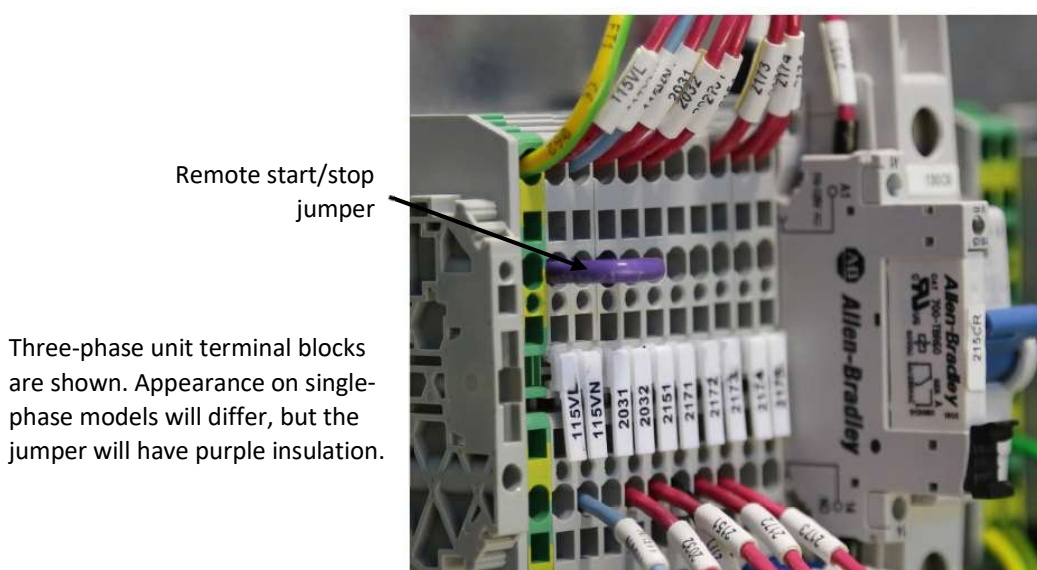

Figure 11: Interlock Jumper Location
4. Replace the jumper with a dry contact. Refer to **Figure 11** for its location.